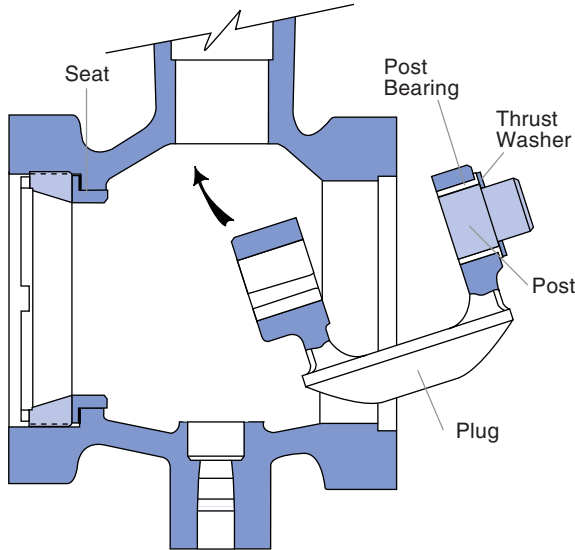

Figure 4: Placing Post/Plug Assembly in Body
**Note:** On one-inch valves, the post bearing is pressed in place. Place this plug/post assembly into the body with the post end aligning with the outboard end of the body. (See Figure 4)